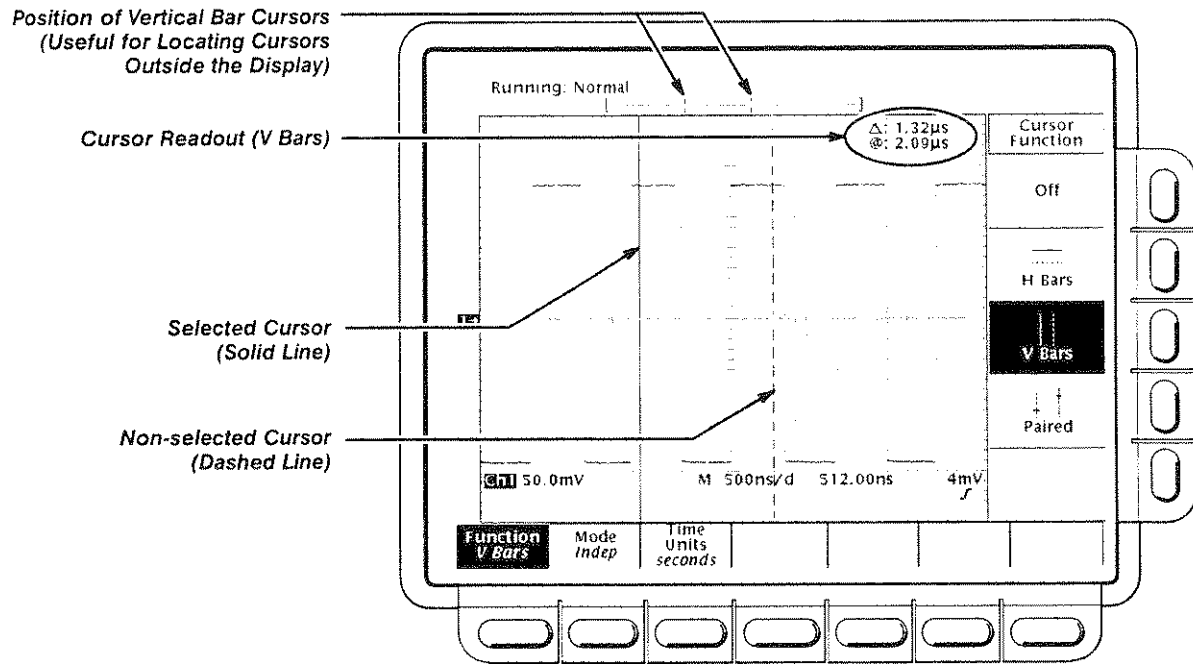

Figure 3-7: V Bars Cursor Menu and Readouts
- **V Bars:** the value after Δ shows the time (or, optionally, frequency) difference between the cursors. The value after @ shows the time (frequency) of the selected cursor relative to the trigger (see Figure 3-7).
To take cursor measurements press the **CURSOR** button to display the Cursor menu (Figure 3-7).